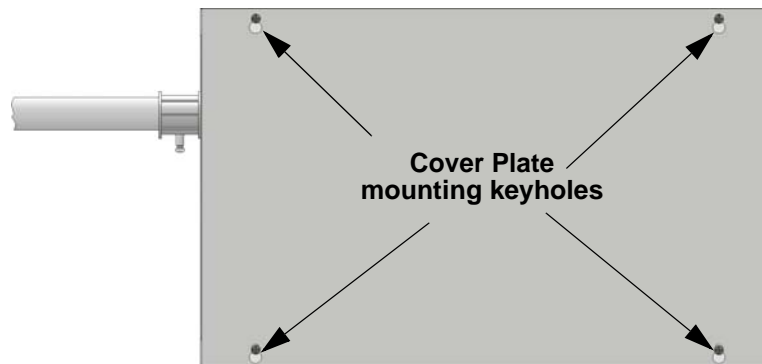

**Figure 4.9 Battery Connections in the RBB Cabinet**
3. Run extended battery cable from control panel cabinet through conduit to RBB cabinet. See Figure 4.9.
**NOTE:** Figure 4.9 is an example of how the wire connections can be routed. However, any other cabinet knock-outs (on either the main control panel or the RBB cabinet), that are not previously being used may be utilized to connect conduit between the two cabinets.
4. Connect battery leads to the backup battery terminals. See Figure 4.9. Observe the proper polarity to prevent damage to the batteries or the control panel.
5. Insert the RBB cover screws into the cover mounting holes (see Figure 4.9). Screw the cover screw 3/4 of the way into the cover mounting hole.